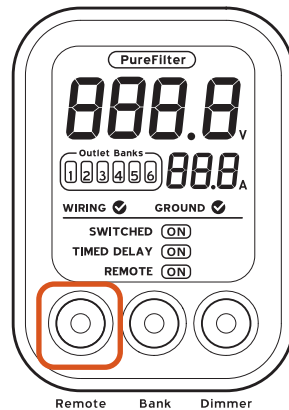

Figure 3b
- B. Press the "Remote" button on the front of the Power Console to turn on the remote function. The LCD display should read "REMOTE ON". (Fig. 3b)